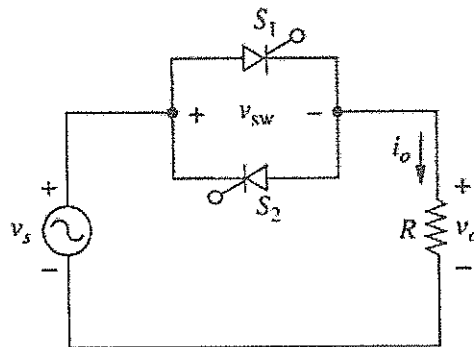

Figure 4
Sketch the waveform for V_s , I_o , V_o and V_{sw} the circuit shown in Figure 4
- c. The single-phase AC voltage controller of Figure 4 has 480 V rms 60 Hz source and a load resistance of 50 Ω . The delay angle α is 60°. Determine